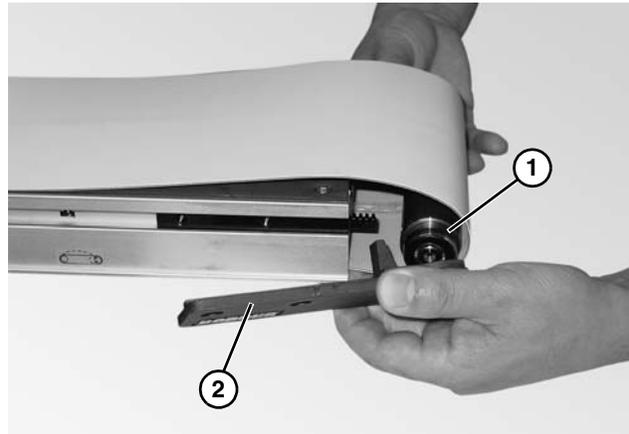

Figure 63
1. With opposite head plate installed, position the idler spindle (Figure 63, item 1) through the loop of the belt, into the opposite head plate.
2. Place the head plate (Figure 63, item 2) and attach the head plate to the conveyor frame with the two (2) screws removed and hand tighten.